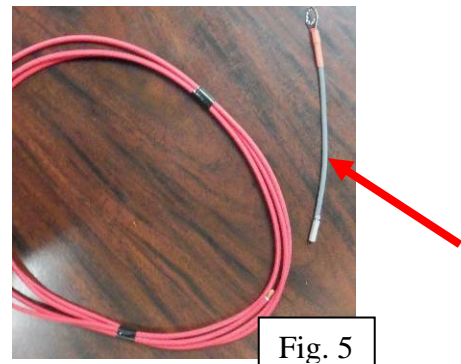

Fig. 5
7. Attach the fusible link(s) to the red wire(s) and the other end will be attached to the battery or power source. Do not connect to the power source until everything is wired completely. The fusible link is an added safety feature based upon the length of wire being used (Fig. 5).